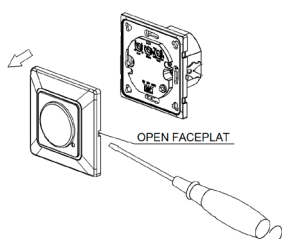

Figure 1
- Unload the faceplate of sensor and adjust the time and LUX knob.(refer to figure 1)